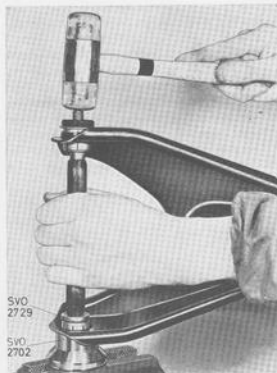

Fig. 6-34. Removing control arm shaft. 2. Driving out shaft
2. Fix the control arm shaft securely in a vice. Carefully bend out the control arm ends so that tool 2729 can be fitted, see Fig. 6-33. Drive out one of the bushes with a fiber club and tool 2702, see Fig. 6-34. Turn the control arm, move tool 2729 over to the other side and drive out the other bush in the same way as for the first one.